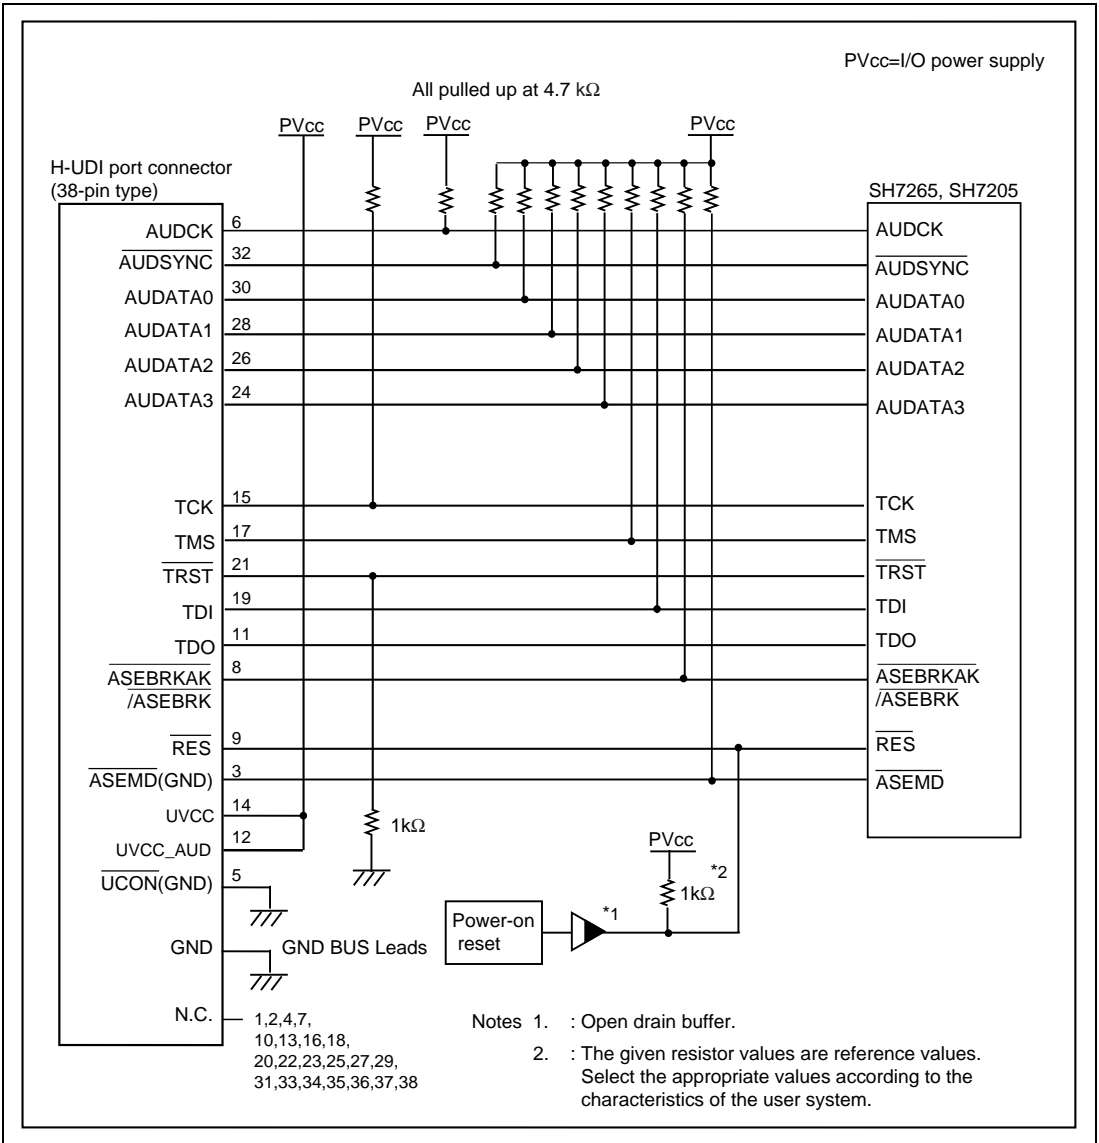

Figure 1.5 Recommended Circuit for Connection between the H-UDI Port Connector and MCU when the Emulator is in Use (38-Pin Type)
Figure 1.5 shows a recommended circuit for connection between the H-UDI and AUD port connectors (38 pins) and the MCU when the emulator is in use.
- (1) When the emulator is used: ASEMD# = 0
- (2) When the emulator is not used: ASEMD# = 1Figure 1.5 shows an example of circuits that allow the ASEMD# pin to be GND (0) whenever the emulator is connected by using the user system interface cable. When the ASEMD# pin is changed by switches, etc., ground pin 3. Do not connect this pin to the ASEMD# pin.
7. The resistance value shown in figure 1.5 is for reference.